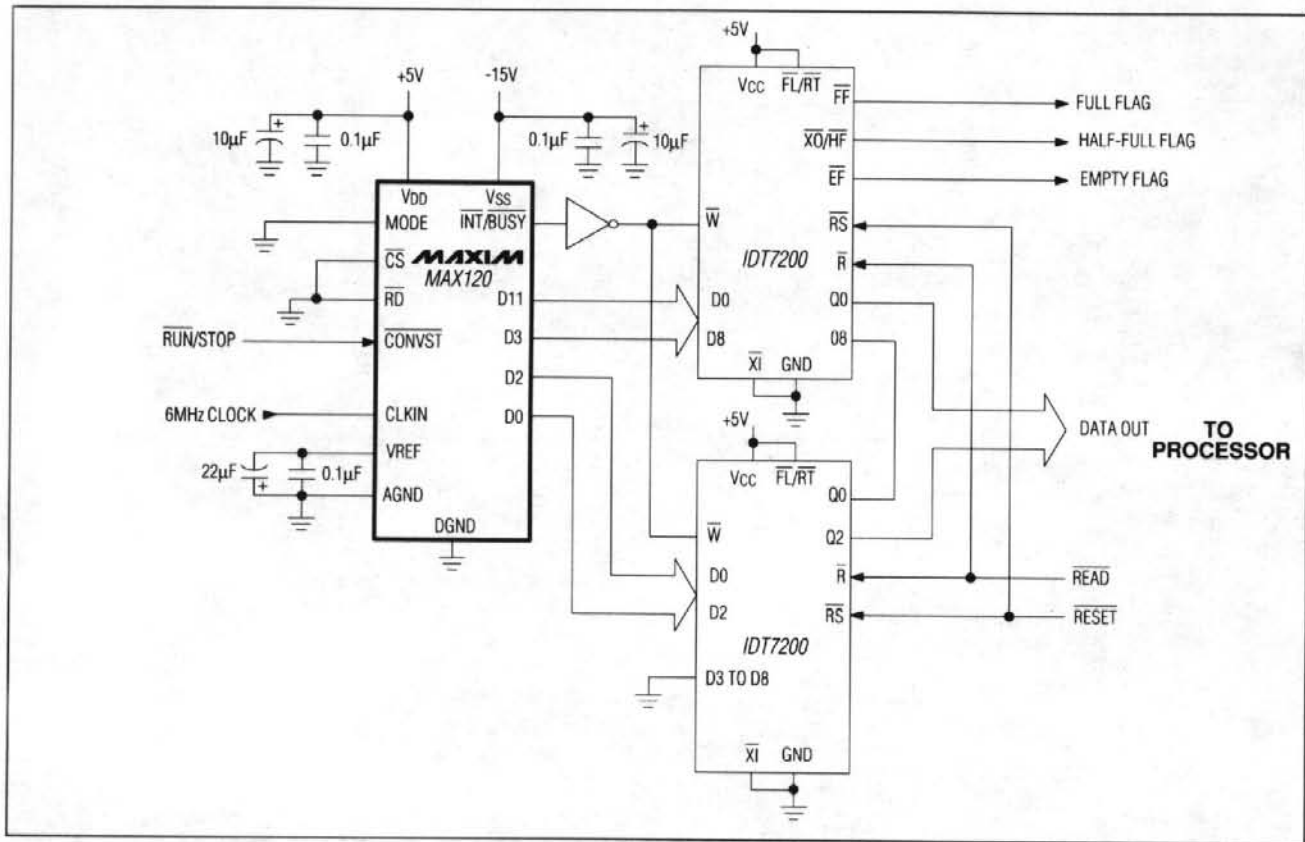

Figure 13. Using MAX120 with FIFO Memory
Using FIFO memory to buffer blocks of data from the MAX120 reduces  $\mu$ P interrupt overhead time by enabling the  $\mu$ P to process data while the MAX120, unassisted, writes conversion results to the FIFO. To retrieve a block of data, the  $\mu$ P reads from the FIFO via a read-interrupt cycle. Read and write operations for the FIFO are completely asynchronous. Figure 13 shows the MAX120 operating in continuous-conversion mode (mode 5), writing data directly into the two IDT7200 256 x 9 FIFO buffers at the rate of 428kps. The  $\mu$ P is interrupted to read the accumulated data by the FIFO's half-full (HF) flag approximately three times per millisecond. For operation at 500kps, use an 8MHz clock, and pulse CONVST at 500kHz. The full flag (FF) indicates that the FIFO is full. If this flag is ignored, data may be lost. If necessary, conversions can be inhibited by pulling  $\overline{CS}$ ,  $\overline{RD}$ , or  $\overline{CONVST}$  high. The FIFO's read cycle times are as fast as 15ns, satisfying most system speed requirements. The RESET input resets all data in the FIFO to zero.